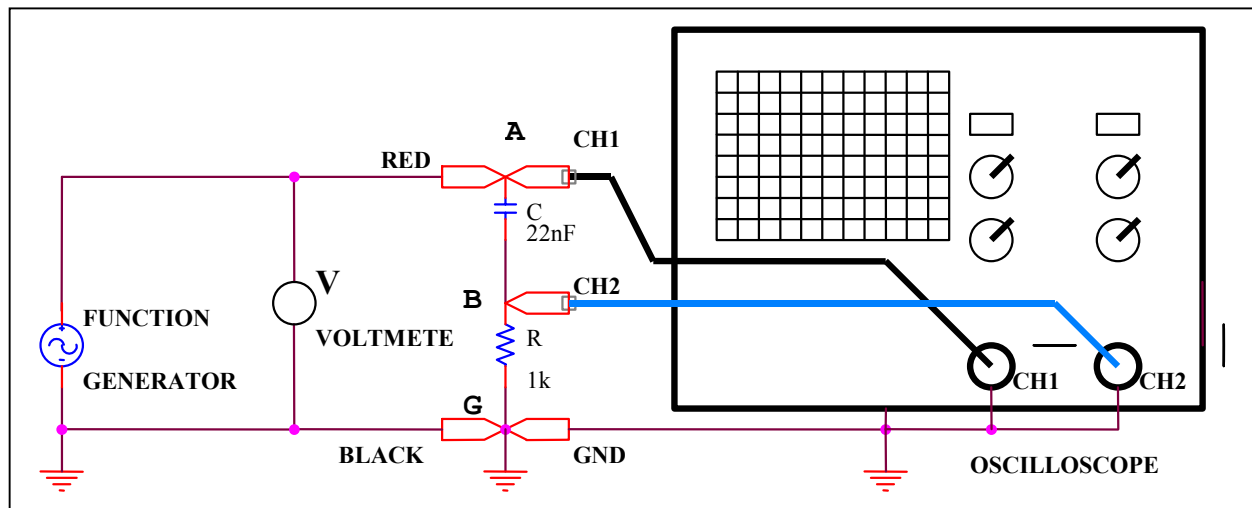

Figure 2.9 Test circuit connections.
1. Construct the circuit shown in Figure 2.9 on your breadboard and connect the function generator and both oscilloscopes' inputs. Be sure to connect ground leads of both devices (black lead of the function generator and the alligator clips of the oscilloscope probe) to the same common point to provide "common ground connection" to your circuit. This circuit will be used in steps 2 to 20, so do not dismantle it.
Circuit of Figure 2.9 connected correctly
0	Circuit of Figure 2.9 connected correctly.